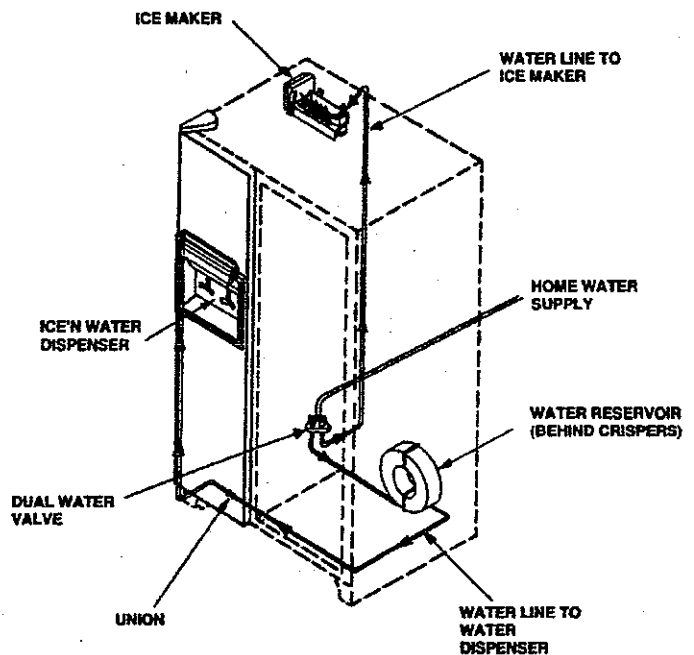

Figure 81
- b. When the Dispenser bar is activated, a solenoid in the water line is energized and water is added to the reservoir. Using the force of the household water pressure, water moves into the tubing and out through the Dispenser. See Figure 81.